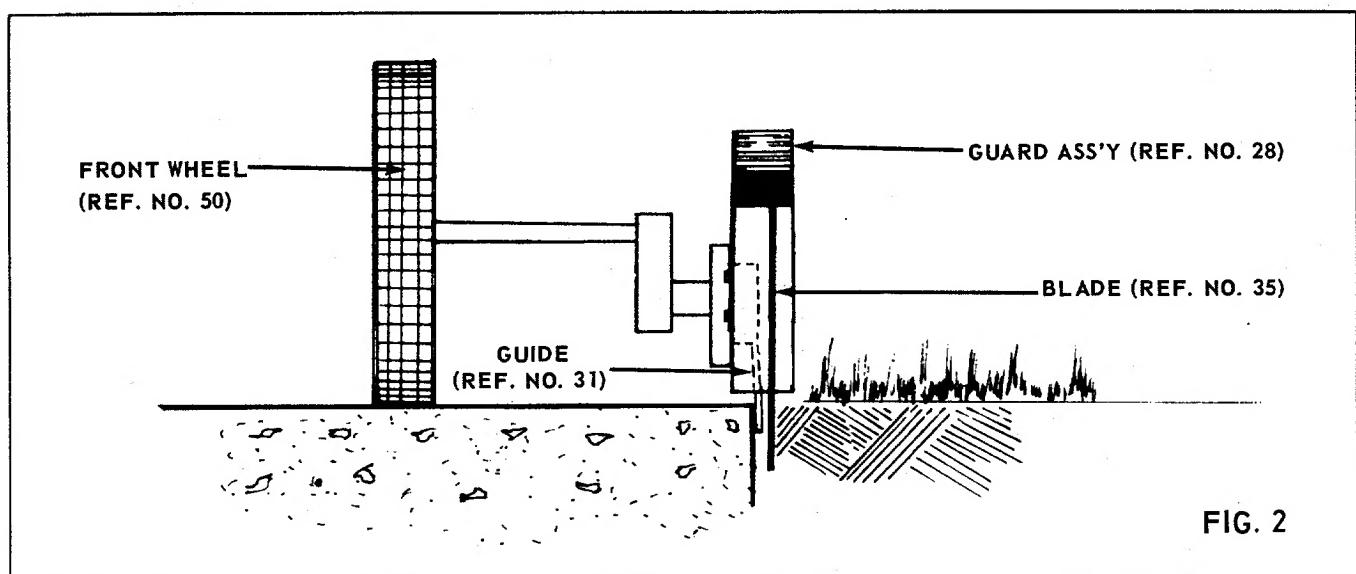

FIG. 2
4. Be sure guide (ref. no. 31) rides against the walk (see fig. 2) below.
5. Guard ass'y. (ref. no. 28) is adjustable horizontally. If operator is on walk as in fig. 2; pull guard ass'y. (ref. no. 28) to the right so that the inside of guide (ref. no. 31) is to the walk. If operator is on lawn, pull the guard ass'y. (ref. no. 28) to the left. This allows the outside of guide (ref. no. 31) to be towards the walk. This will protect your blade from wear and damage.